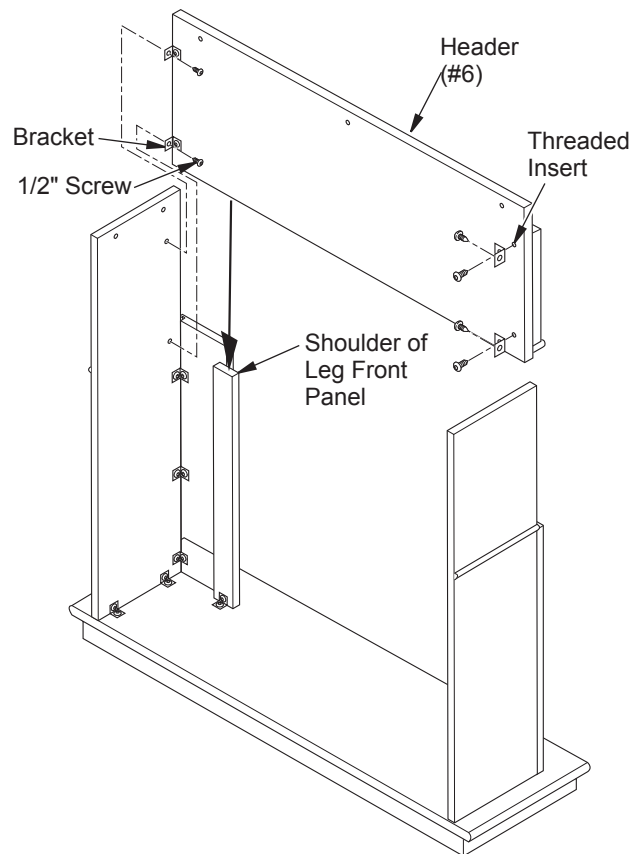

Figure 3 - Attaching Header
2. Place header (#6) into position on top of leg assemblies with arrow pointing up. Bottom of header will slide in behind upper portion of leg front panels and rest on shoulders (see Figure 3). Align bracket holes with threaded inserts in leg assemblies. Using four 1/2" screws through brackets, attach header to leg assemblies. Leave screws loose.